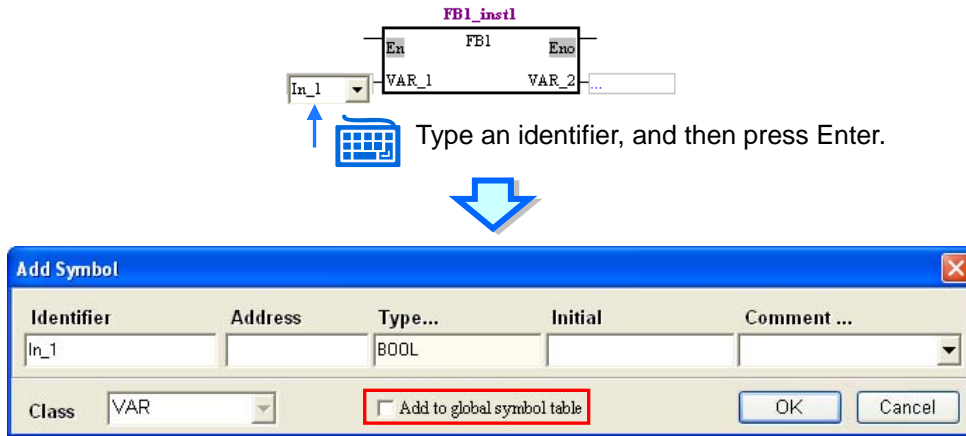

Figure 13-31 Adding a symbol
- (2) After the users type an identifier, and press Enter on the keyboard, the **Add Symbol** window will appear, as shown in figure 13-31. The identifier and the data type of the pin are automatically brought into the **Add Symbol** window. The users can type other information. If the **Add to global symbol table** checkbox is selected, the symbol will be declared in the global symbol table. If the **Add to global symbol table** checkbox is unselected, the symbol will be declared in the local symbol table in the POU.